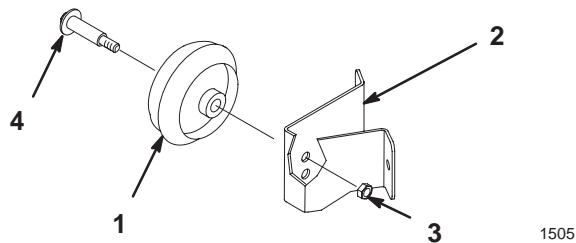

Figure 11
1. To change the height of the mower front wheels, remove the wheel mounting bolt and change the hole into which the wheel is mounted (Fig. 11).
2. Use the top hole for the lowest cutting height and the bottom hole for higher cutting heights (Fig. 11).